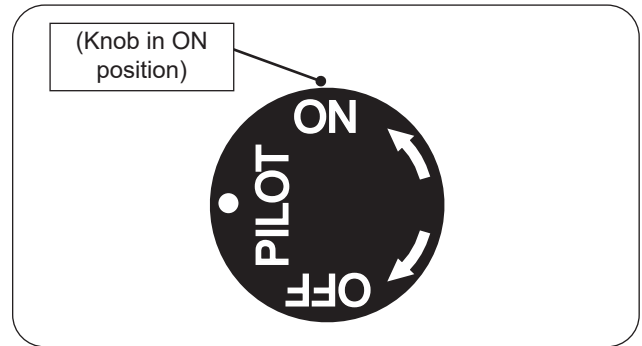

Fig. 35-1 Manual lighting
1. Ensure the pilot is burning. Turn the control knob counterclockwise ↶ to **ON** to ignite the burner (see Fig. 35-1). The valve will open and the burner will light.